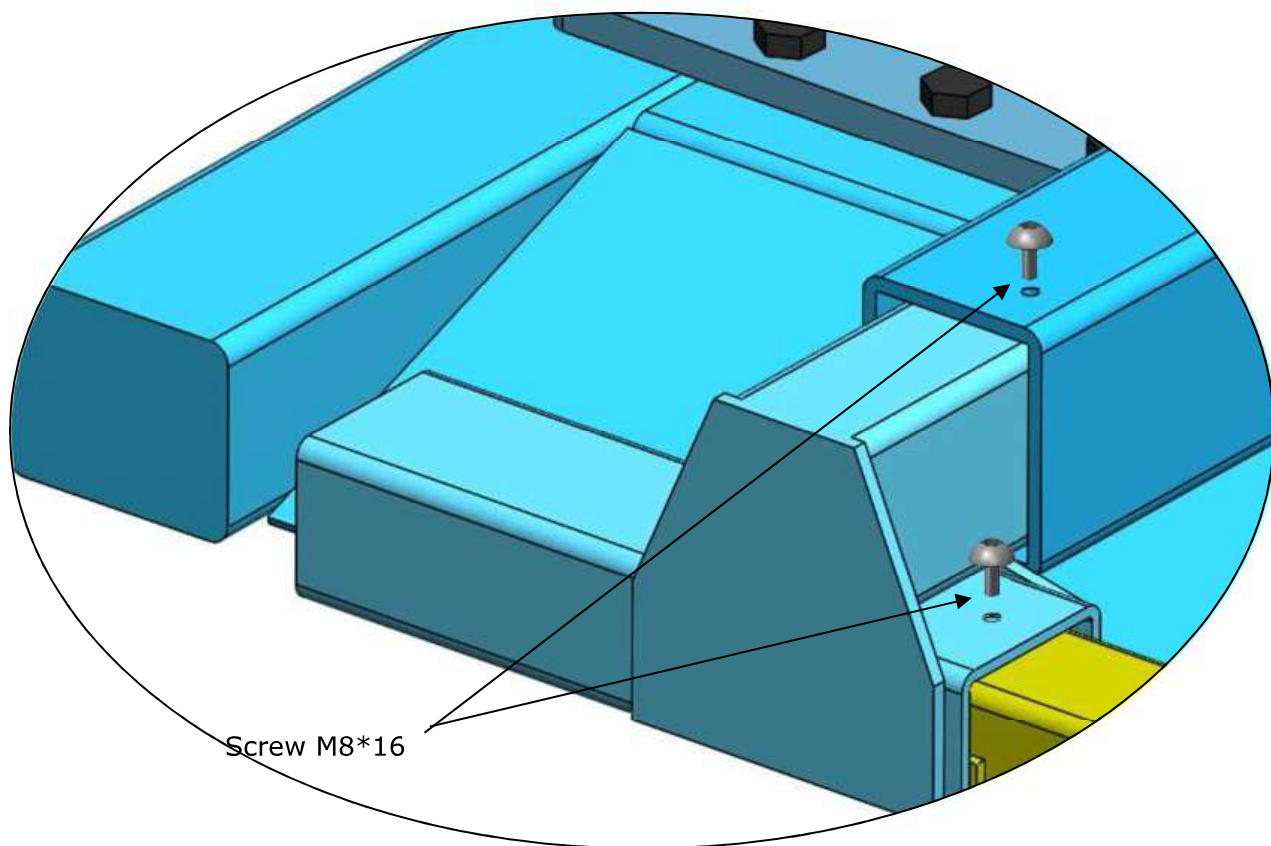
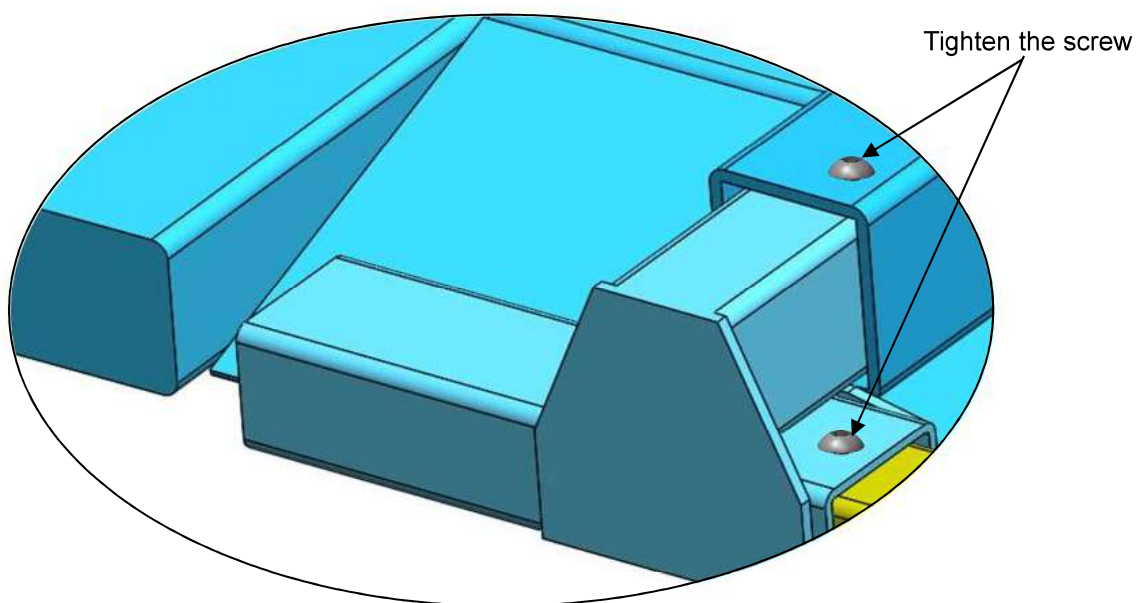

Fig. 22
Fig.23
J. Install lifting arms (see Fig.22)
Lowering the carriage to the lowest position, fix screw M8*16 (see Fig.22) and tighten (See Fig. 23).